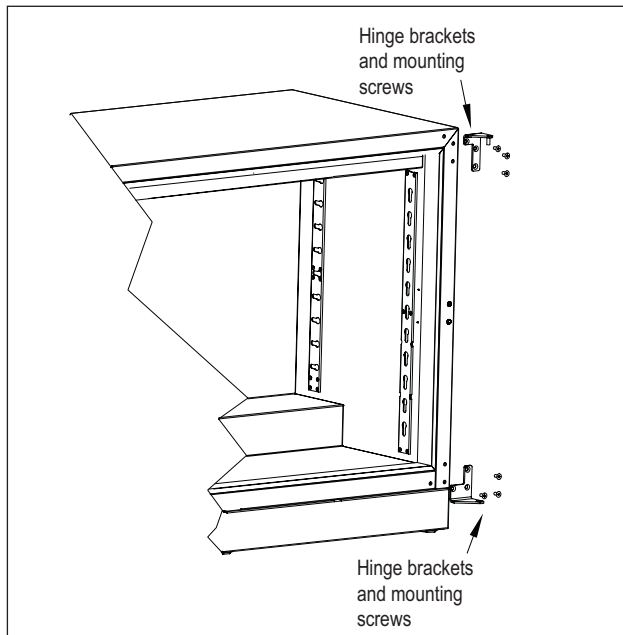

Figure 5. Hinge Installation
5. Using the screws removed in step 3, install the top and bottom hinge brackets from kit (Figure 5).